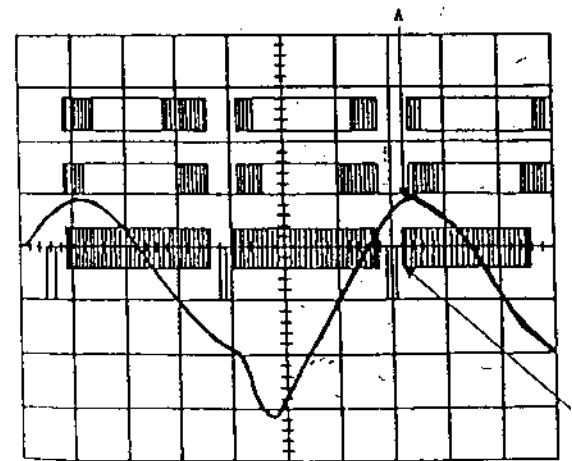

Fig. 28
- Adjust L3702 so that peak of waveform A and leading edge of video signal of waveform B may become same as shown in Fig. 28.